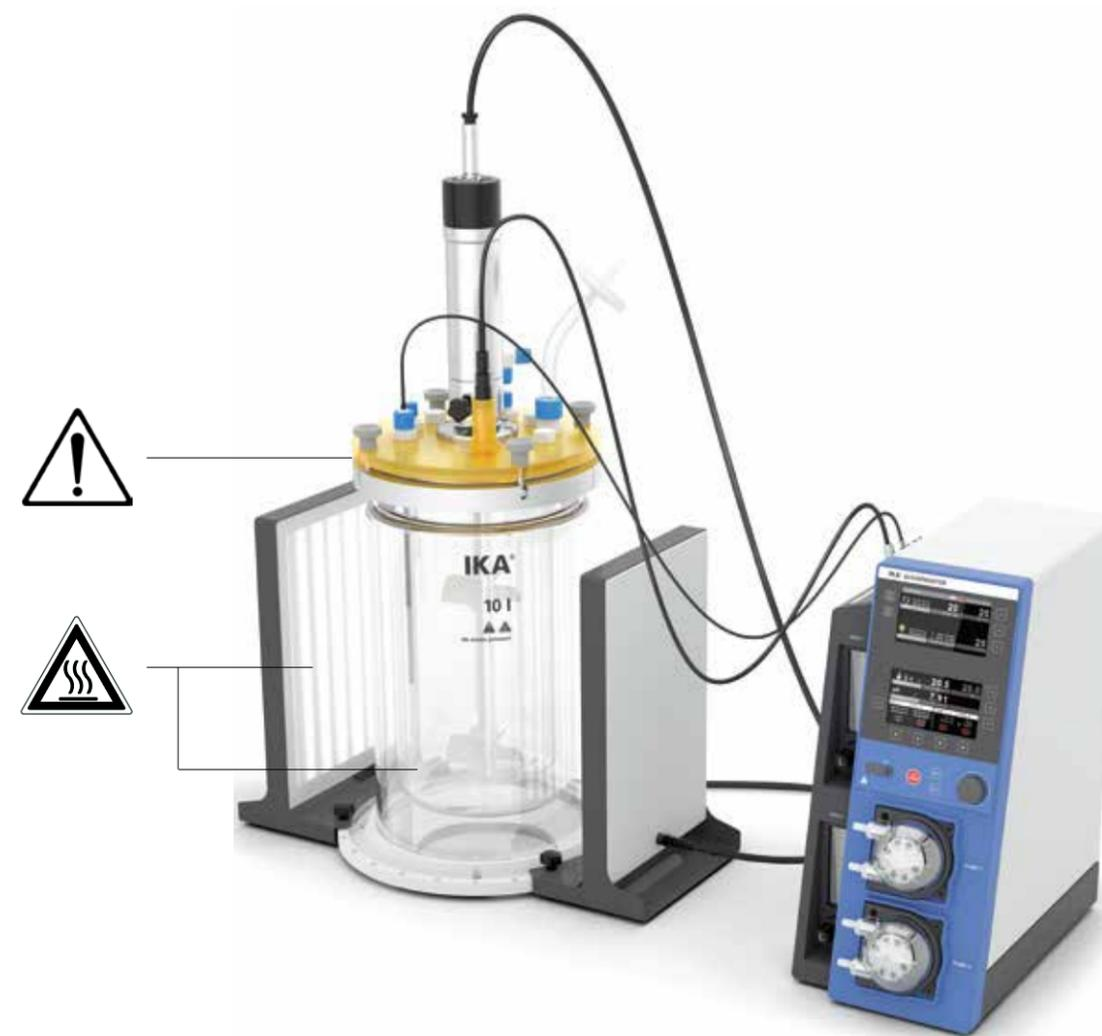

Fig. 6
**Please pay attention to the dangerous parts of the equipment in Fig. 6.**